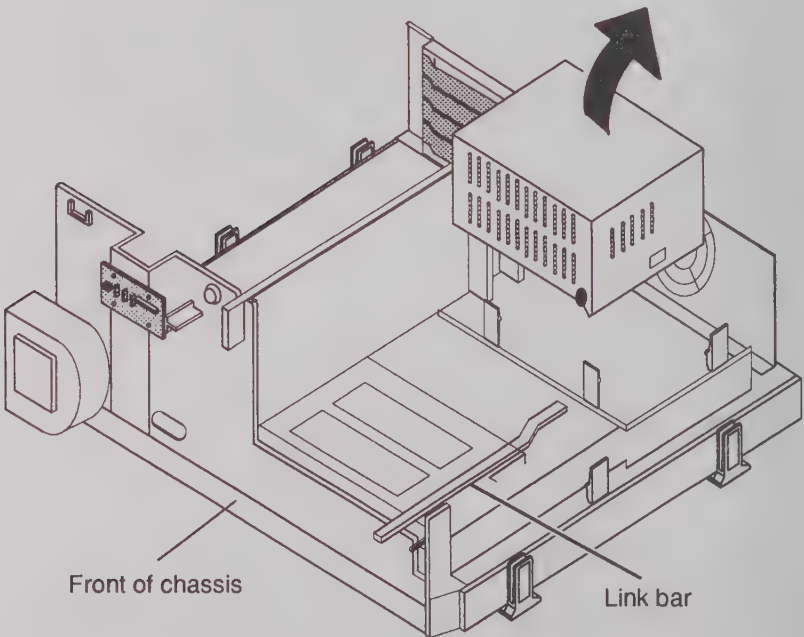

Figure 7 Removing the Power Supply Unit from the Assembly
6. Slide the plastic link bar (shown in Figure 7) toward the front of the assembly so that it disengages from the rubber sleeve on the front of the power supply.
You can now lift the power supply from the chassis as shown in Figure 7.